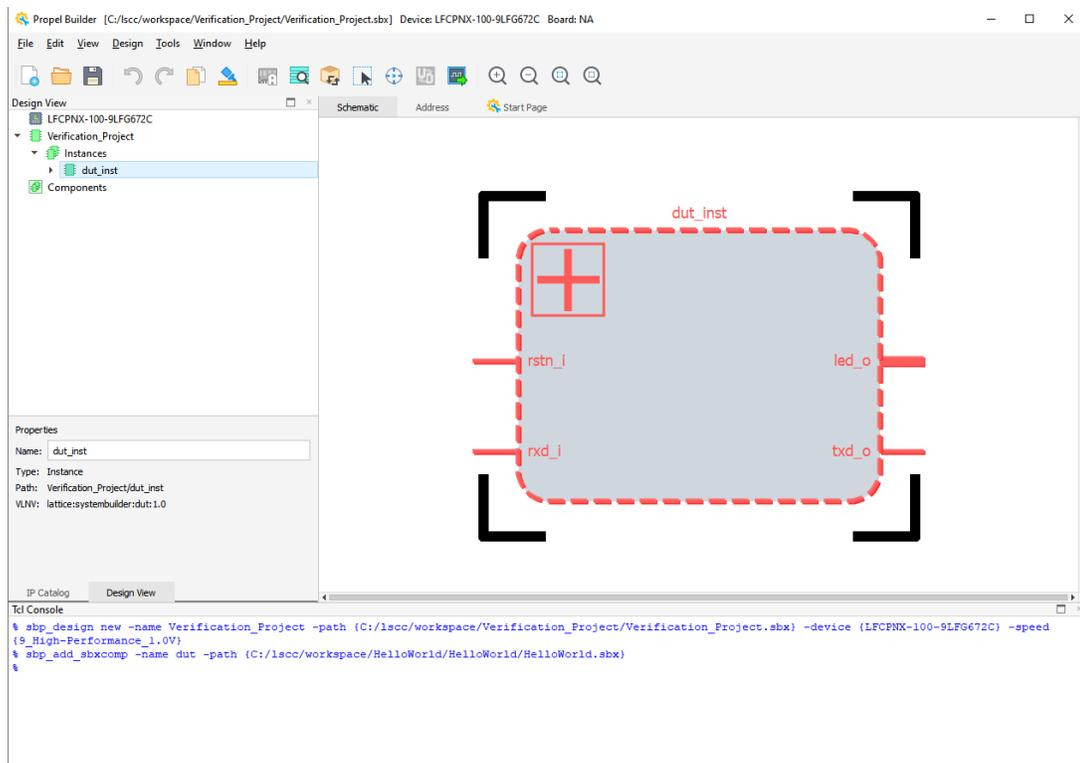

Figure 2.102. Verification Project
- Click **Finish**. A dut_inst of SoC project can be seen in the Schematic view (Figure 2.102).